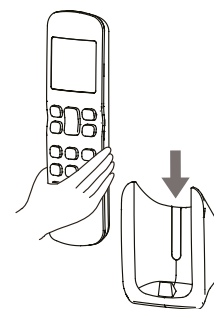

fig. 5
3) Slide the remote remote control vertically down into the remote remote control bracket (see "fig. 5").